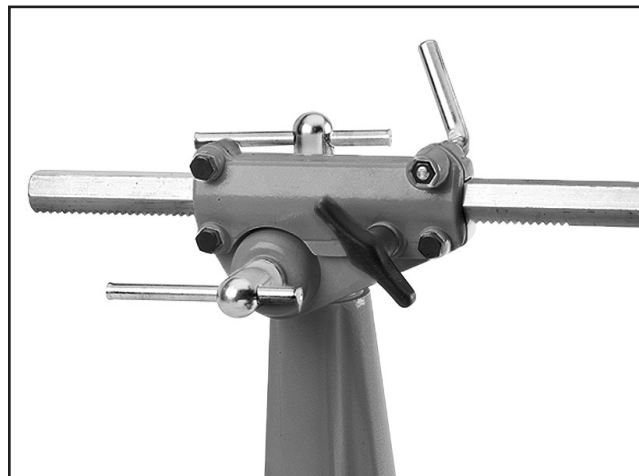

Figure 13. Arm bracket and elbow clamp assembly.
15. Position the arm bracket onto the elbow clamp as shown in **Figure 13**.
16. Thread the T-handle into the elbow clamp so both assemblies are secure as shown in **Figure 13**.